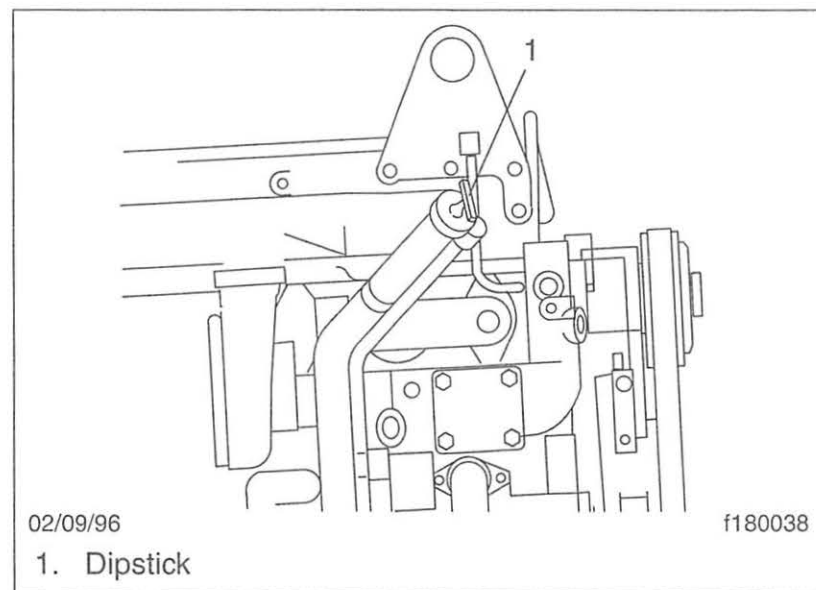

Fig. 11.5, Oil Level Checking
12. Check the engine's lubricating oil level. See **Fig. 11.5**. If the oil is low, add enough oil to bring the level up to the high ("H") or "full range" mark on the dipstick. Refer to the engine manufacturer's operation and maintenance manual for recommended lubricants.